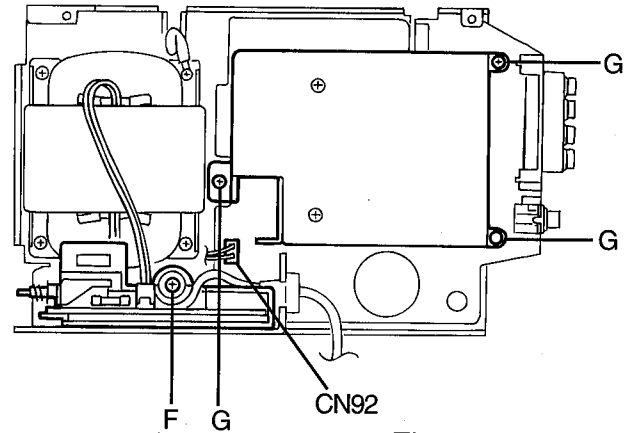

Fig.2-5
4. Remove the six screws (E) securing the amp unit.
■ Removing the Amp PCB Ass'y (Refer to Fig. 2-5)
3. Remove the three screws (G) securing the heat sink to the amp PCB ass'y.
■ Removing the Power Supply PCB Ass'y (Refer to Figs. 2-5, 2-6)
3. Remove the screw (F) securing the power supply PCB holder.